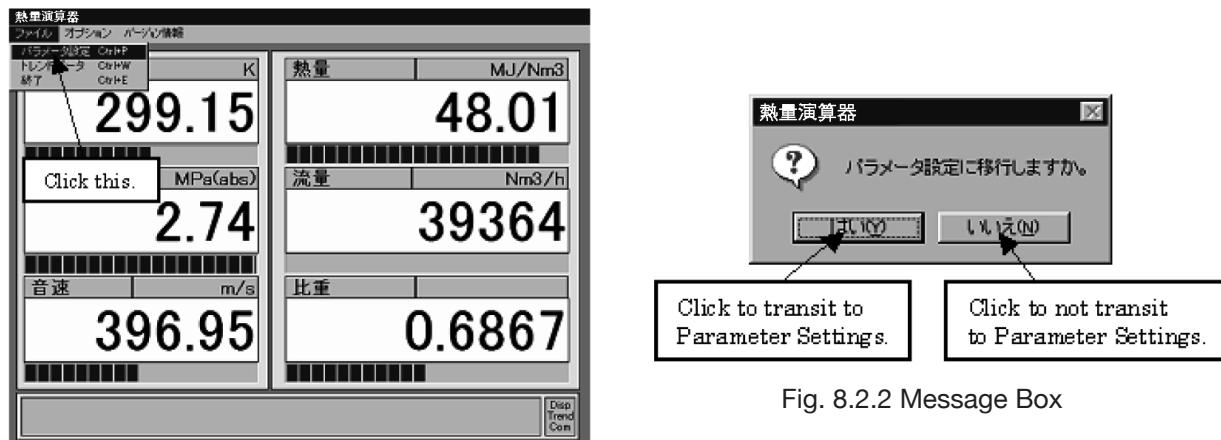

Fig. 8.2.1 Transiting to the Parameter Settings Screen
2. When the screen as shown in Fig. 8.2.1 appears, click [パラメータ設定 Ctrl+P] [Parameter Settings Ctrl+P].